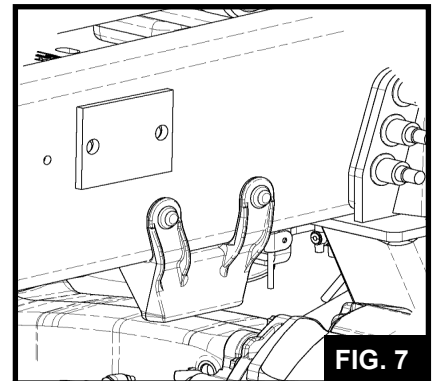

FIG. 7
- 6.2** Dump air out of the suspension air springs such that the forward and rear axle stops come into contact with the forward and rear axles (**See FIG. 7**).